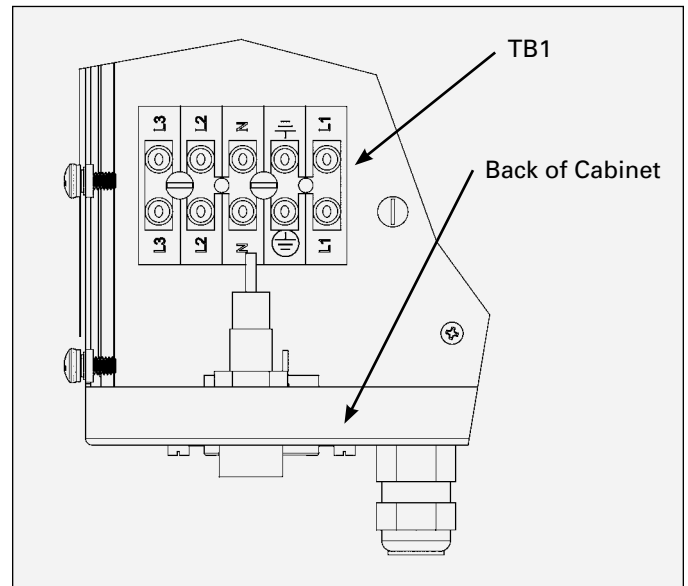
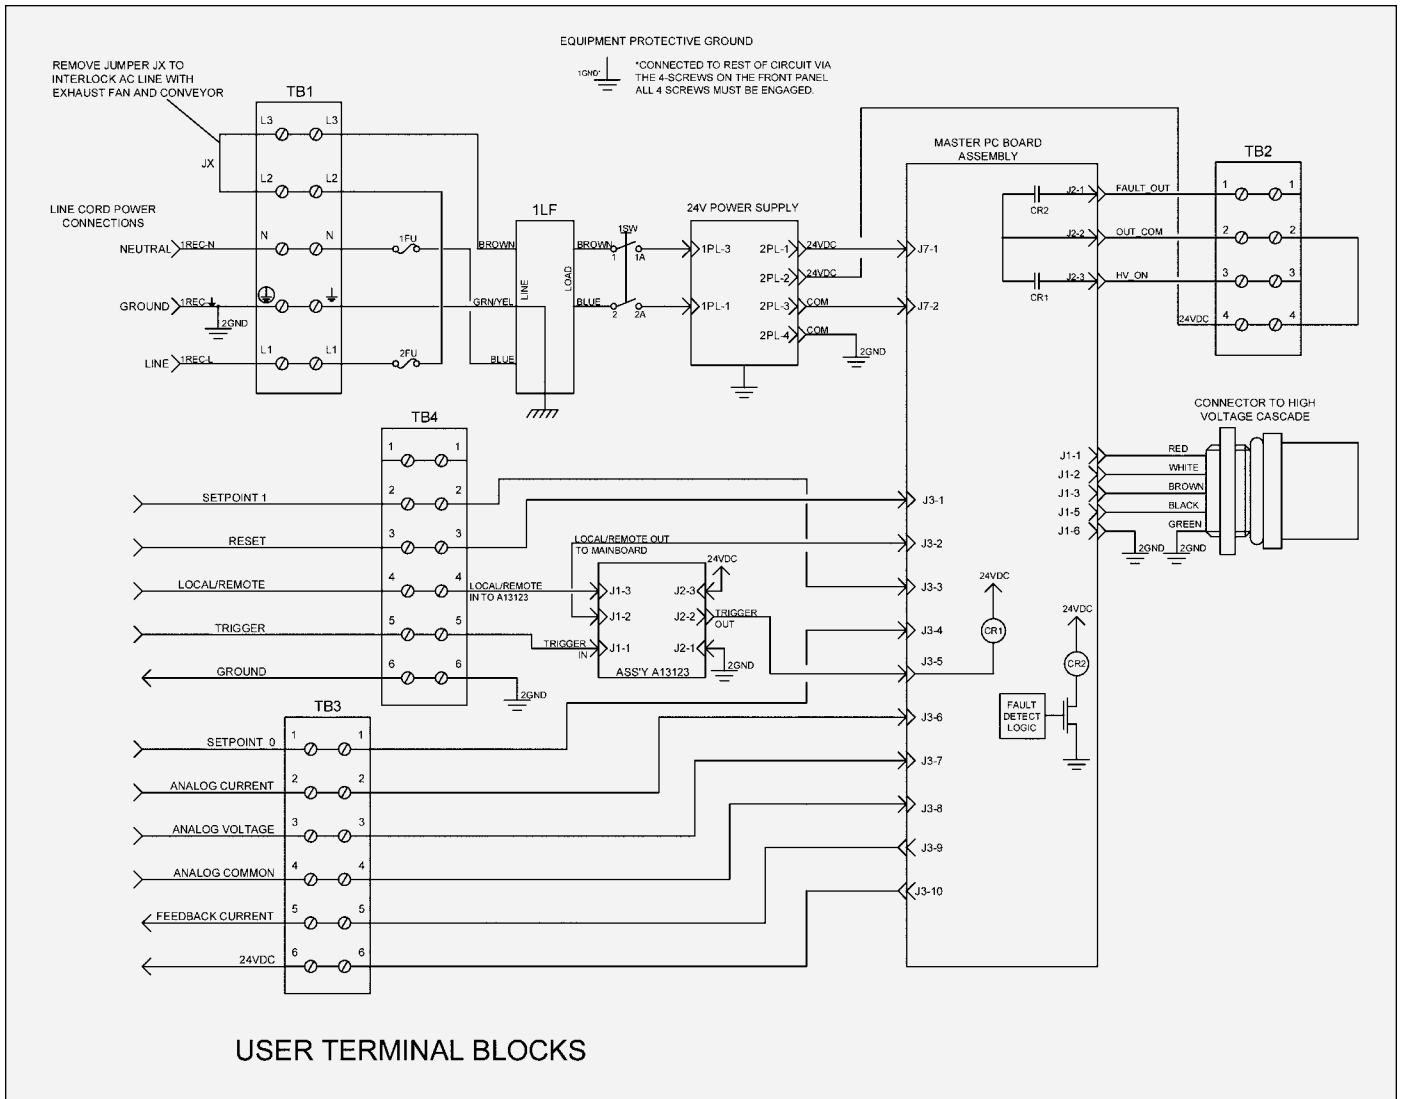

Figure 8: Location of TB1 in Controller
Figure 11: Controller Schematic
1. **Ensure the AC line cord is unplugged** and remove the AC inlet receptacle wiring from TB1-N, TB1-L1 and TB1-EARTH GROUND (See Figures 8 and 9).
A set of relay contacts for high voltage (CR1) and fault (CR2) conditions is provided at TB2-3 and TB2-1 (See Figure 8). One end of these relay contacts are connected together and also connected to a source input terminal TB2-2 (See Figure 11). When a source voltage is present at TB2-2 and either the high voltage is on or a fault condition occurs, the source voltage will become available at the output end of the corresponding contact. Maximum contact ratings are as follows: